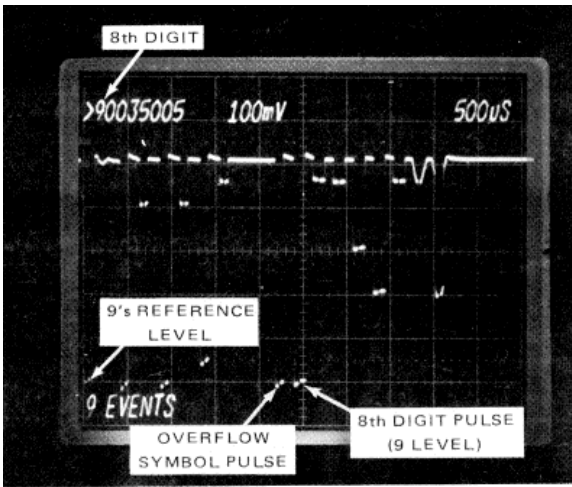

Fig. 5-5. A properly adjusted 8th Digit Pulse, compared to the 9's Reference Level.
q. Reconnect the signal to the 7D15 input and allow the count to increase until the 8th digit pulse reaches the most negative level. At this point, stop the input signal to the 7D15 (see Fig. 5-5).
r. Adjust R760 until the bottom of the 8th digit pulse is at the same level as the 9 reference pulse. See Fig. 5-5 for a properly adjusted 8th digit pulse.